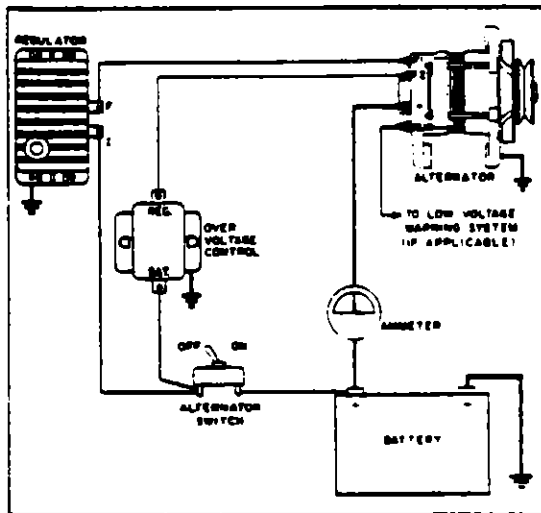

FIGURE 9-27r. APPLICATION OF OVERVOLTAGE CONTROL
c. The relay contacts will remain open until the alternator switch is turned off. Figure 9-27r illustrates the overvoltage control connected in a typical Prestolite insulated field alternator.